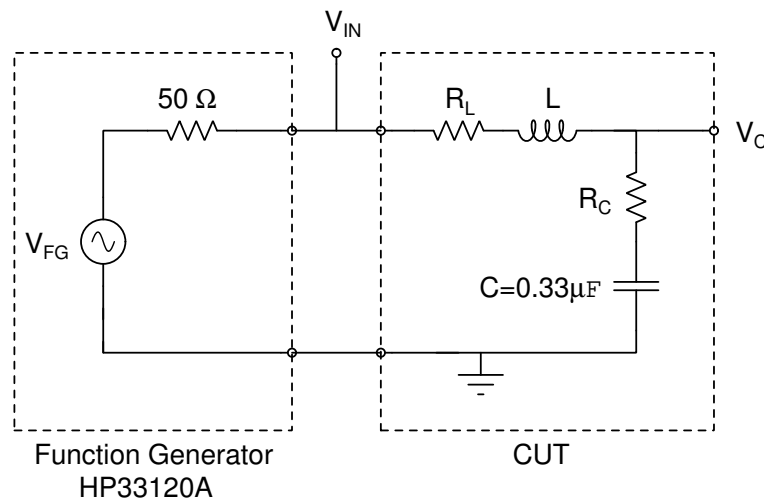

Figure 1: RLC circuit analyzed and measured in Lab #6.
3. Consider the circuit in **Figure 1** with $R_C = R_L = 0\ \Omega$ and $L = 1\ \text{mH}$.
- (e) Set the function generator (FG) to produce a 1 Vp sine wave with a 2 Vdc offset at a frequency of 1 kHz. Verify the signal is correct using the oscilloscope. What DC offset voltage is displayed on the FG?
3. Build the RLC circuit shown in Figure 1.
- 2. Use NGspice to simulate the RLC circuit shown in **Figure 1** using the measured values of the capacitor and inductor including the equivalent series resistances R_C and R_L .